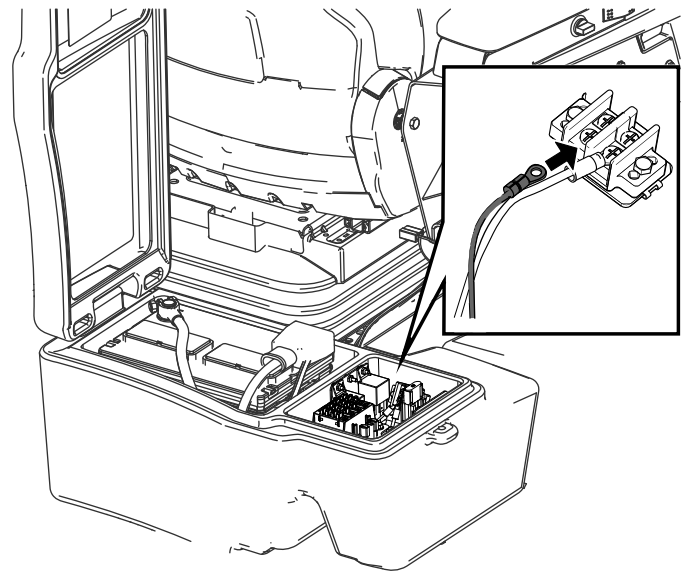

Figure 25
5. Connect the eyelet connection to the ground terminal block as shown in Figure 25.